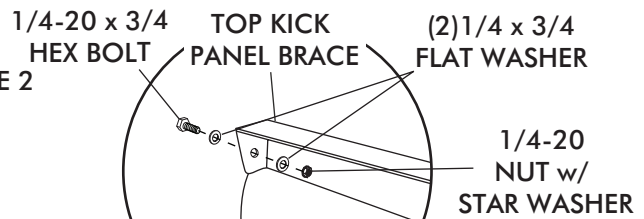

FIGURE 2a
- RESECURE TOP KICK PANEL BRACE USING 1/4-20 x 3/4 HEX BOLT, (2) 1/4 x 3/4 FLAT WASHERS AND 1/4-20 NUT w/ STAR WASHER AS SHOWN IN FIGURE 2a.